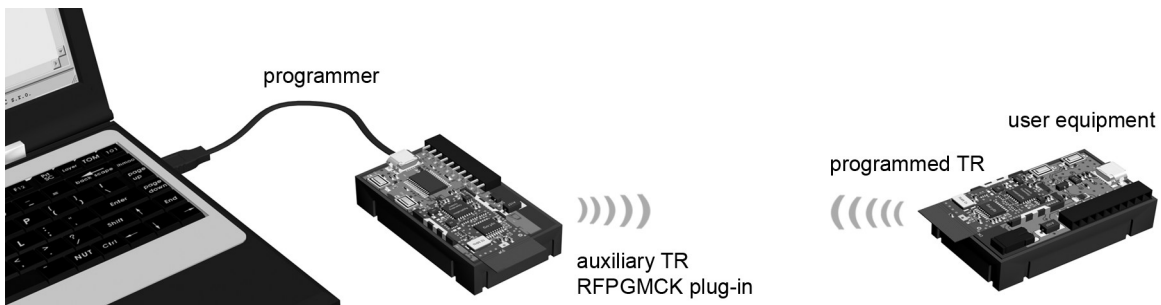
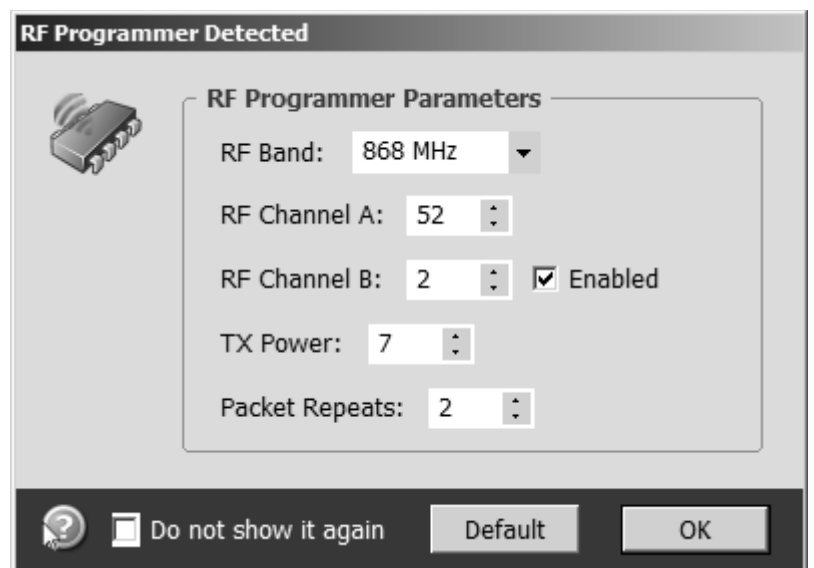

Fig. 2: Wireless upload (RFPGM)
Fig. 4: RFPGM parameters
4. Arrange both TR modules according to Fig. 2 for RFPGM upload. Once the programmer is connected to IQRF IDE, the window for setting of parameters (Fig. 4) is opened and the *RF Programming* checkbox is automatically activated. Now select requested parameters.